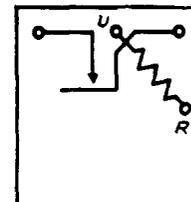

FIG 18 - WINDING TERMINAL ARRANGEMENT AS VIEWED FROM THE REAR (TERMINAL SIDE) - 186 TYPE RELAY
2.16 As viewed from the front of the relay the top contact spring is indicated by 1 and the spring that is picked up by the armature stud by 2. The relative location of the winding terminals as viewed from the rear of the relay are shown on Fig. 18.